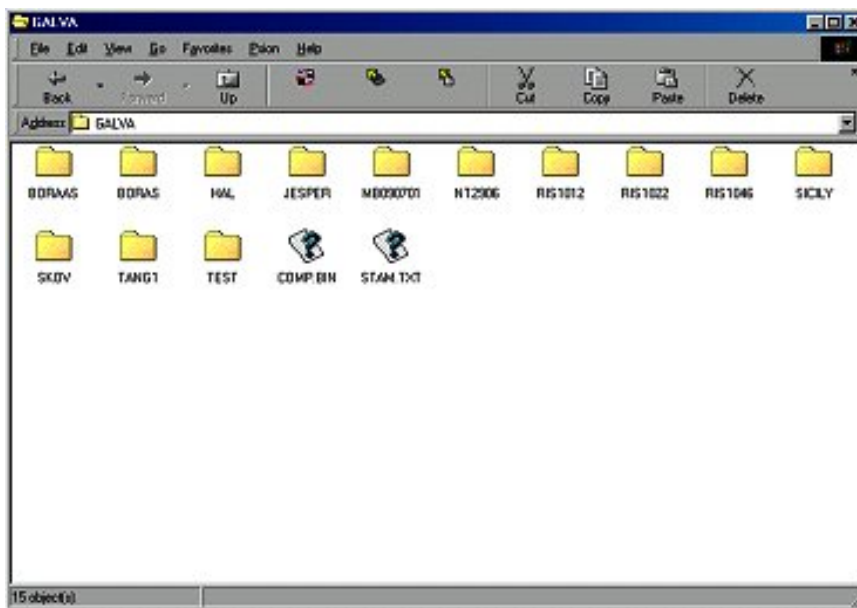

Fig. B5. Explorer screen for My Psion (sub folder)
12. The data with the GPM reading (corrosion rate, potentials and resistance) are located in the GALVA-folder. Double click this folder to see the content of the folder. Fig. B5.